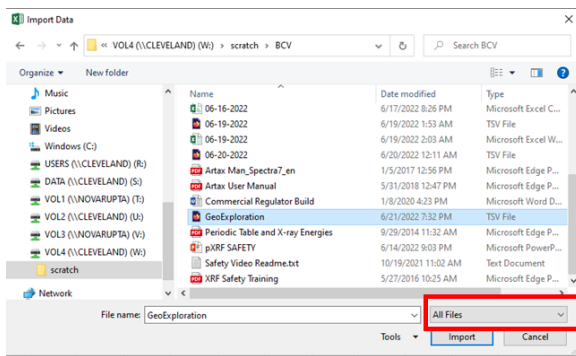

Figure 17. Finding the GeoExploration file
3. Once you find the folder select **All Files** in the bottom right (Figure 17).
4. Then select the **GeoExploration.tsv** file and click **Import**. (Figure 17).